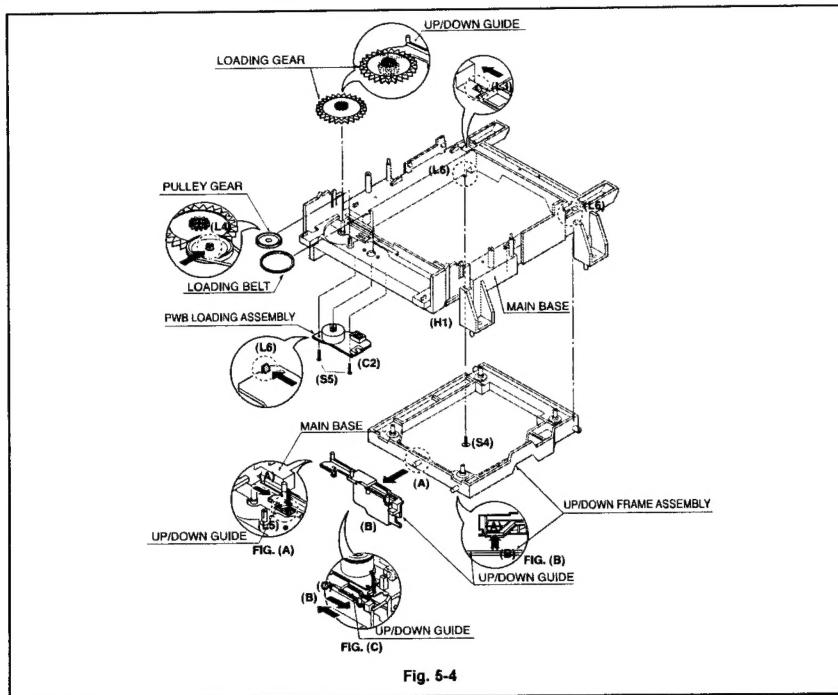

Fig. 5-4
5. Frame Assembly Up/Down (Fig. 5-4)
- When reassembling move the Guide Up/Down in direction of arrow(C) until it is positioned as Fig.(C).
- When reassembling insert (A) portion of the Frame Assembly Up/Down in the (B) portion of the Guide Up/Down as Fig.(B).
6. Belt Loading(Fig. 5-4)
7. Gear pulley (Fig. 5-4)
- 1) Unlock the Locking Tab(L4) in direction of arrow(B) and then separate the Gear Pulley from the Base Main.
8. Gear Loading (Fig. 5-4)
9. Guide Up/Down (Fig. 5-4)
10. PWB Assembly Loading (Fig. 5-4)
11. Base Main(Fig. 5-4)